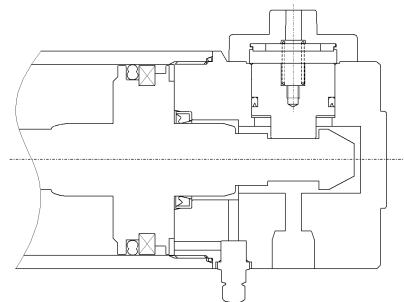

Fig.2
- (b) When the piston of cylinder further comes closer to its stroke end and the groove ⑥ of sleeve matches to the tail of stopper piston, the stopper piston drops back to the groove ⑥ due to expansion force of spring ③, generating an effect of locking the piston of cylinder. (Fig. 2)